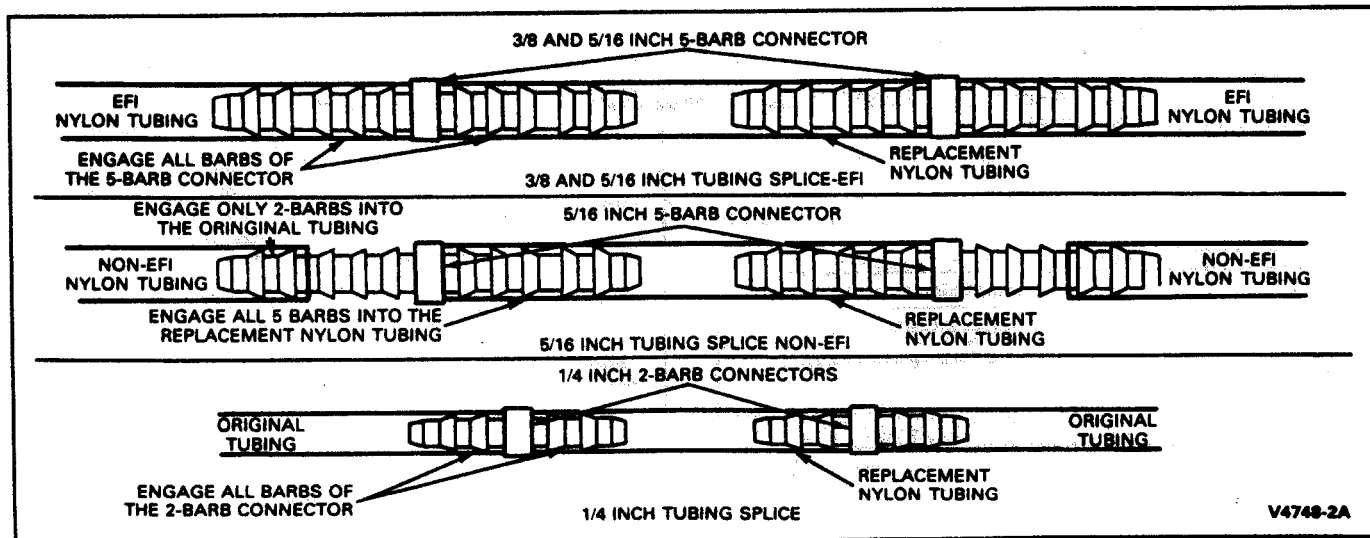

FIG. 32 Splicing Service Combinations
4. Select the proper (1/4, 3/8 or 5/16-inch) barbed connectors from completing the splice. Two connectors are required for each splice (Fig. 32).
7. Complete the splice of the replacement nylon to the original nylon tubing at both ends. (Use the boiling water method mentioned previously, to get the required number of barbs engaged, as shown in Fig. 32).
NOTE: To make hand insertion of the barbed connectors into the nylon easier, the tube end must be soaked in a cup of boiling water for one minute immediately before pushing the barbs into the nylon. Refer to Fig. 32 for all splicing service combinations.
6. Complete the splice by connecting the barbed connector to the original nylon. Refer to Fig. 32 for the proper barb insertion.
5. Select the proper size union (Fig. 32) and attach the new steel tube end to the original tube.